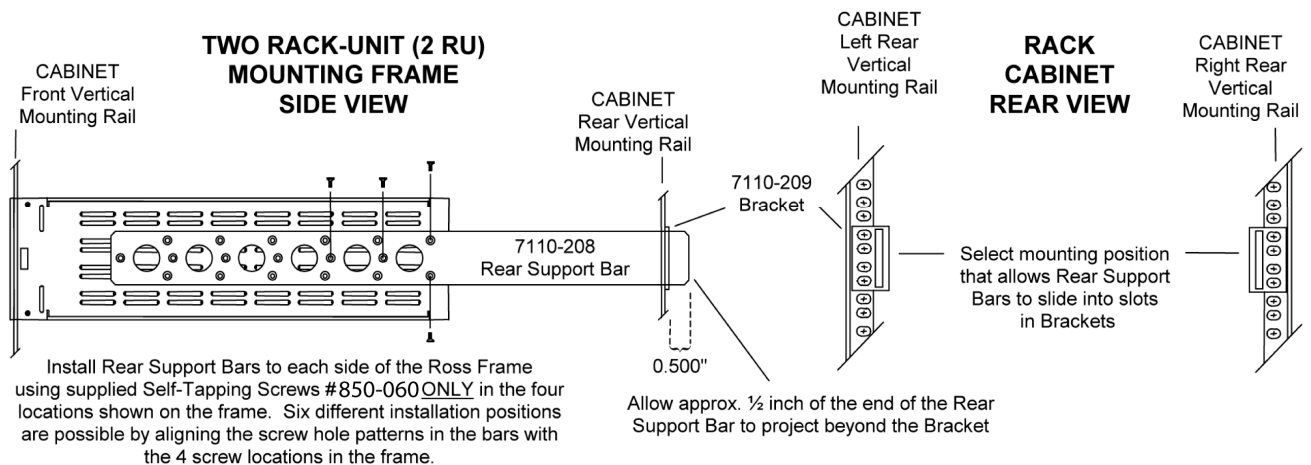

Figure 15. FSB-8310 Rear Support Bars and Brackets Diagram
1. The rear support bars can be attached to the openGear™ frame in six possible positions; refer to Figure 15. Choose the position that suits the cabinet depth that will give approximately a ½ inch (0.5") projection beyond the rear vertical mounting rails. Using four screws per bar, as shown in the illustration, fasten one bar to each side of the openGear™ frame.